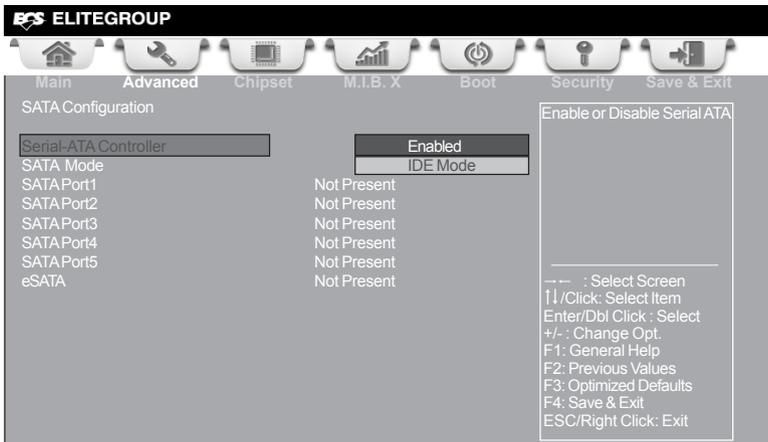

Figure 1.2 SATA Configuration Screen
3. Use the arrow keys to select the SATA Configuration (see Figure 1.2) and globally set SATA Configuration to RAID.